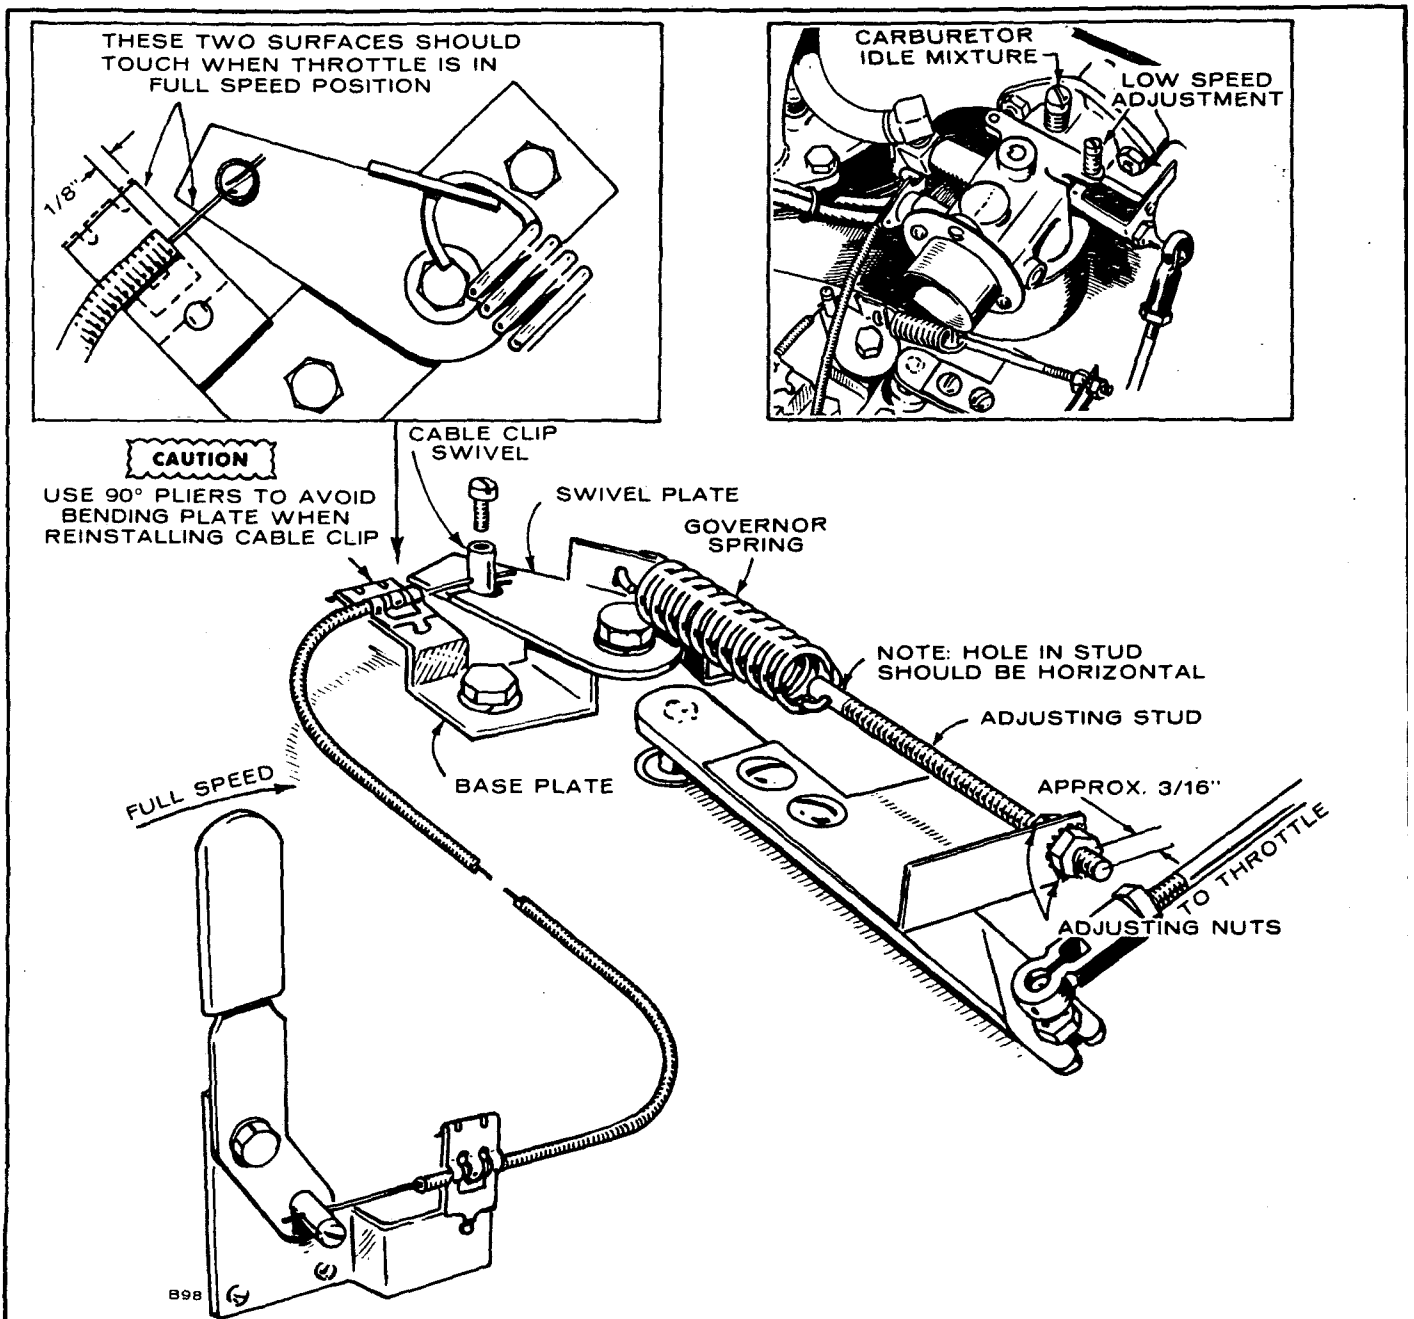

FIGURE 9. GOVERNOR ADJUSTMENTS
ADJUSTMENTS (Figure 9)
1. Use a screwdriver to adjust low speed stop screw (Figure 9) so engine runs at 1200 (± 100)rpm when throttle is held closed.
2. With speed control in "fast" position, the speed control cable should be holding governor swivel plate against stop on governor base plate (Figure 9).